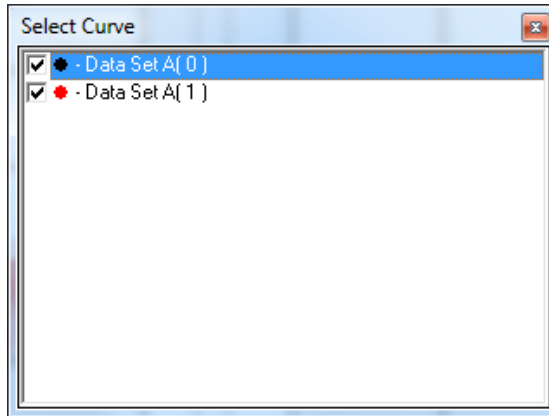

Fig. 25 Data displayed in the graph.
- All data displayed in the graph are shown in the table Graph > Select signal (Fig. 25). DataSet is selected by the left mouse button double-click. Name of the selected DataSet will appear under the graph.